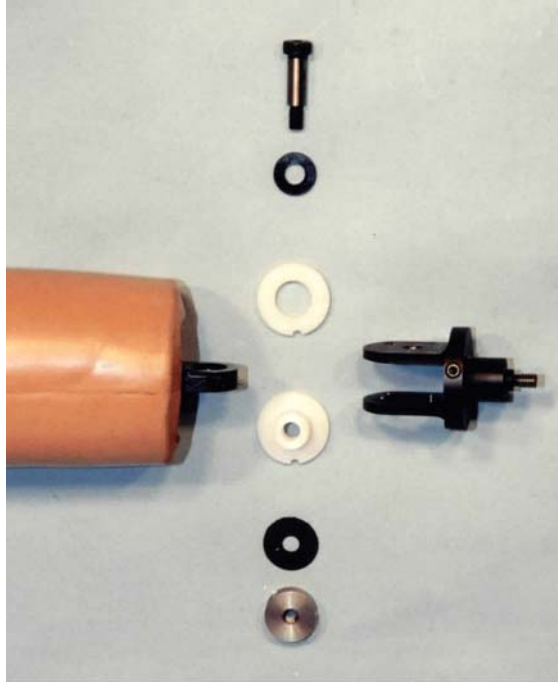

Figure 8.21- Exploded arm attachment assembly
21. **Figure 8.21** shows an exploded view of the upper arm / shoulder assembly. Position one Upper Arm Pivot Bushing (T1SHM040) and one Upper Arm Pivot Washer (T1SHM041) onto the top of a standard Hybrid III arm assembly. Place a Upper Arm Joint Spring Washer (T1SHM047) into the recessed area of the pivot bushing. Position the upper arm assembly into the shoulder yoke. (Be sure to use the appropriate arm for each side of the dummy.) The joint spring washer should be facing out toward the large hole opening in the shoulder yoke. Rotate the upper arm pivot bushing and the upper arm pivot washer until the notches are aligned with the dowel pins in the shoulder yoke.